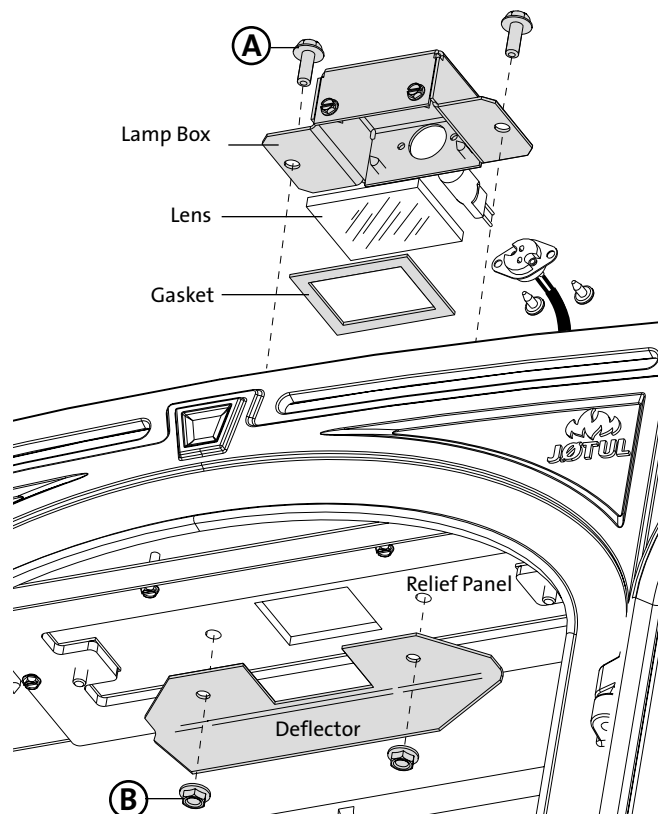
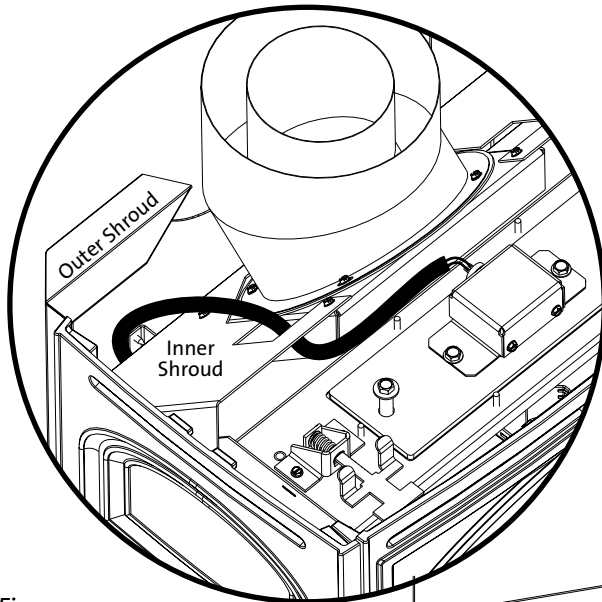

Figure 48. Accent Lamp installation.
Figure 49.
2. Remove the two flanged hex head bolts (A) and cover plate from the Relief Panel using a 10 mm socket or wrench. See fig. 48.
3. Position the Gasket, Lens, and Lamp Box on the top of the Relief Panel using the two bolts (A) previously removed.
4. Inside the firebox, attach the Light Deflector plate to the bolts on the underside of the Relief Panel using the nuts (B) included in this kit.
5. Route the controls wire harness in between the inner and outer shrouds, and then through the opening in the base plate. Connect the harness to the (L) terminal on the rear of IFC board. See figs. 49 - 50, page 28.